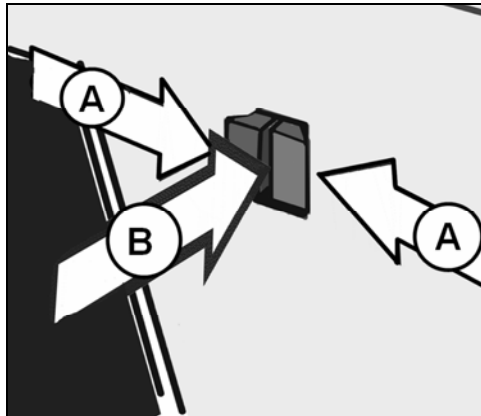

Figure 5-35: Releasing the Overflow Level Switch from the Connecting Strip
4. Press the retaining clips toward each other (Figure 5-35, Item A); push in to release the switch from the frame (Figure 5-35, Item B).